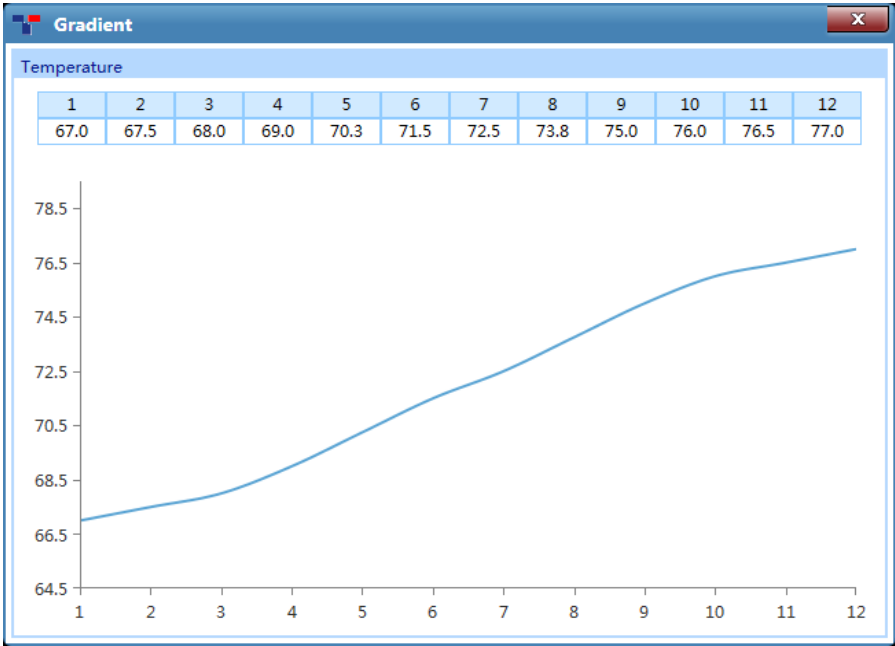

Figure D-5.6e Step Setting Dialog Box – Gradient Temperature Details
- **Details:** User can click *< Details >* to the specific gradient temperatures of each column and the Gradient distribution, as shown in figure D-5.6e.